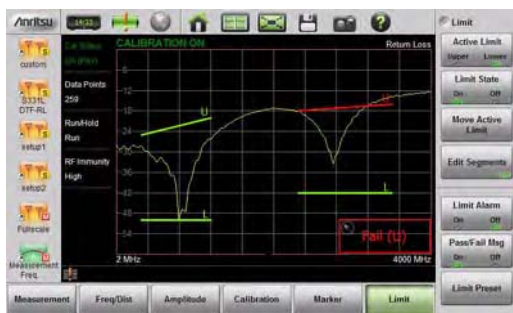

Figure 3-22. Pass/Fail Message Turned On
Figure 3-22 shows the Pass/Fail message. Note that in the Fail message, Upper (U) or Lower (L) or both (U,L) are displayed. To change the size and location of the Pass/Fail message, (when the Limit menu is displayed) tap the small circled arrow in the lower-right corner of the large format message box. The circled arrow is in the upper-left corner when the message is in small format.